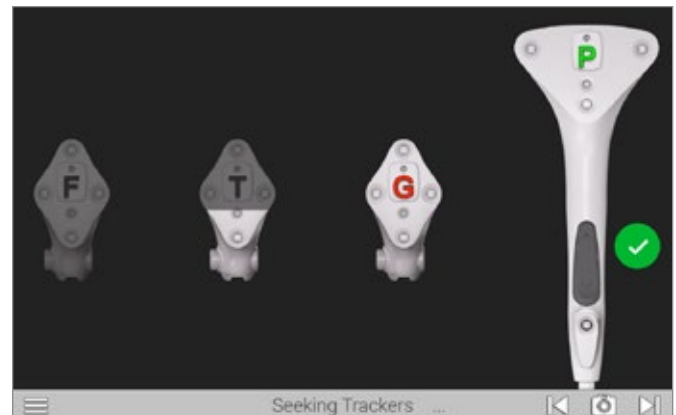

Figure 8
Insert batteries (positive end first) into the Probe (P) Tracker, Femoral (F) Tracker, Tibial (T) Tracker and the Guide (G) Tracker (Figure 8).